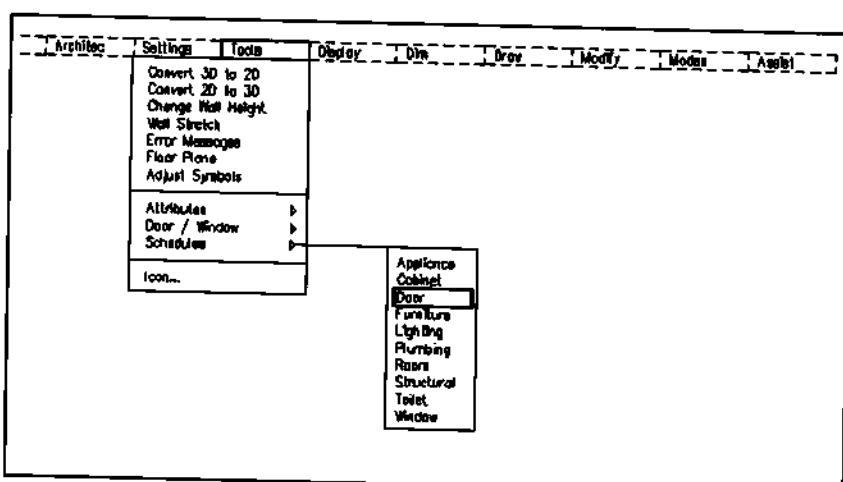

Figure 15.
- Pick Door under Schedules in the Tools pulldown menu to activate this command as shown in Figure 15.